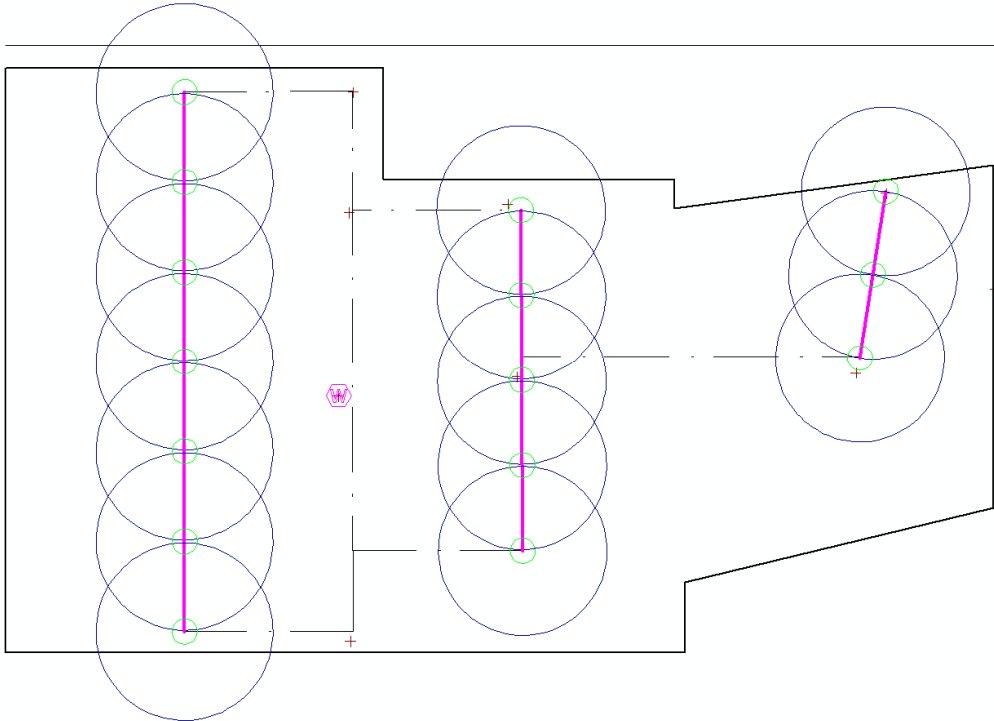

Figure TI 2
5. Select *Mainline|Sprayline* again and change the "Radius" and "Outlet Spacing" to **100m**. Click [OK]. Start the next sprayline 3rd vertical line from the left. You should now have 5 hydrants here named Sprayline 2 - 1, Sprayline 2 - 2 and so on. Lastly, run the short sprayline on the last vertical line. You should have 3 hydrants named Sprayline 3 - 1, Sprayline 3 - 2 and Sprayline 3 - 3. Your system should look like Figure TI 2.